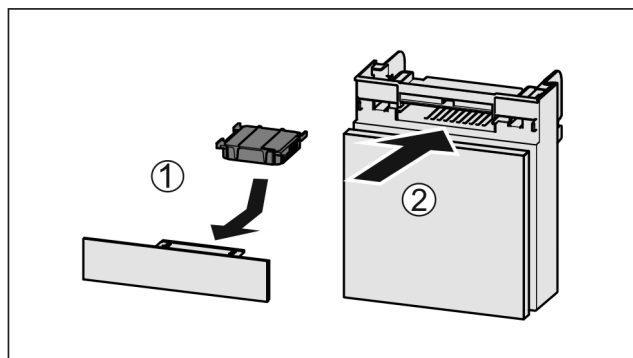

Fig. 75
- ▶ Insert the carbon filter as shown in the diagram Fig. 75 (1).
- ▶ Push the compartment in Fig. 75 (2).